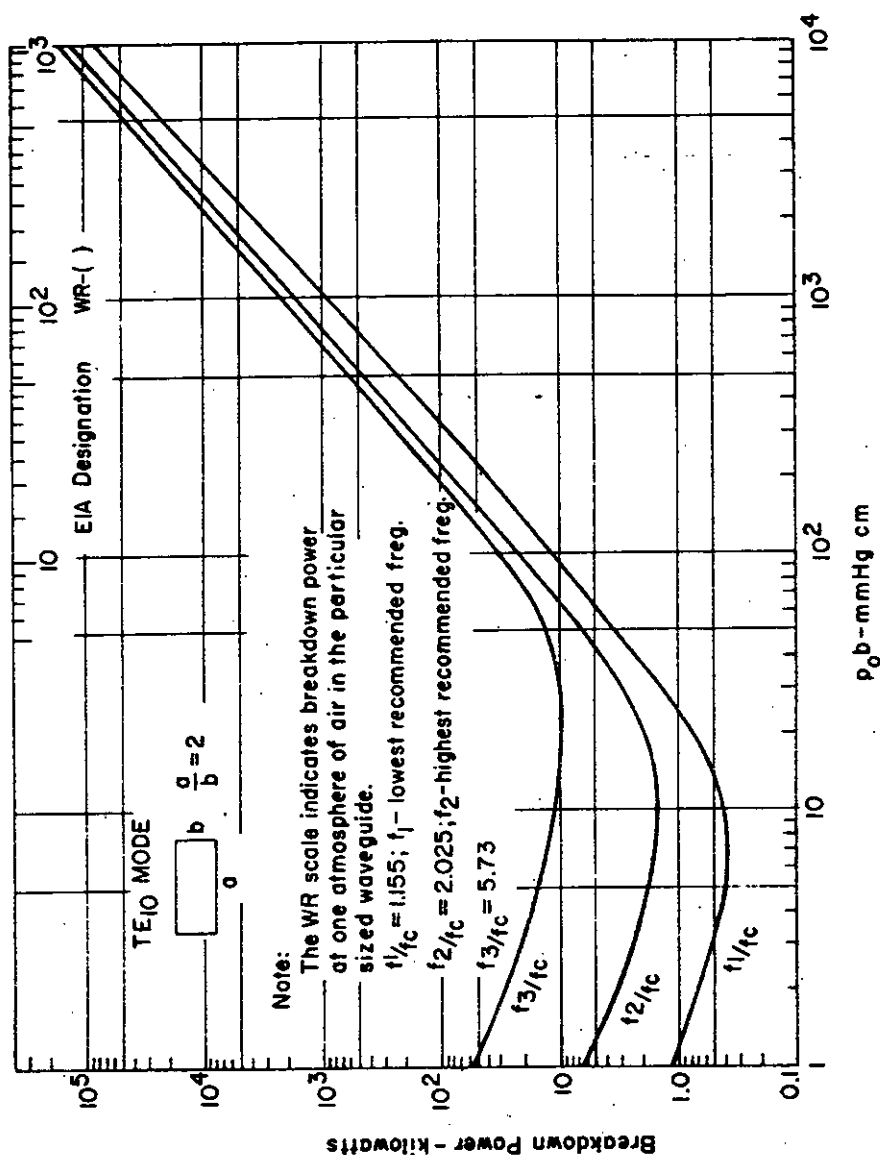

FIGURE 6.6. Breakdown power for air filled standard rectangular waveguides
6.2.9 Power handling capabilities of rectangular waveguides. Figures 6.6 through 6.9 describe the power handling capabilities of all types of rigid rectangular waveguides. Graphical data is given on waveguide power handling capability vs. waveguide dimensions, and on waveguide power handling capability vs. waveguide pressure.